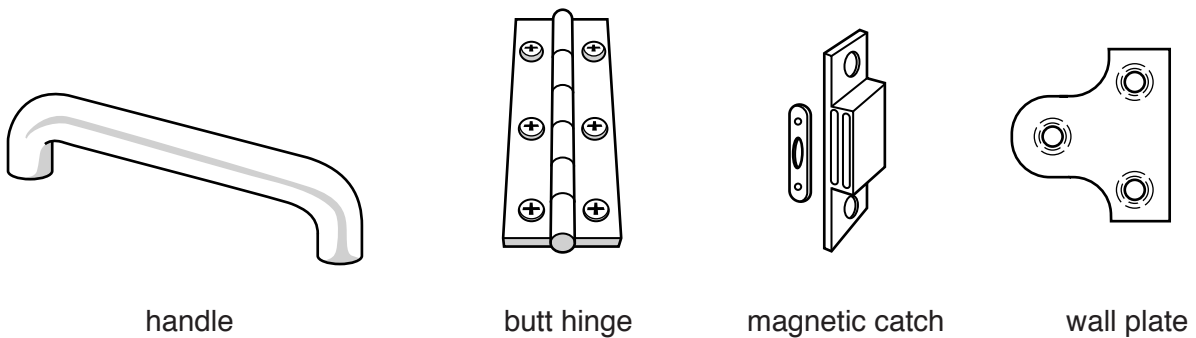

Fig. 8
- (b)** Fig. 8 shows four pre-manufactured components that could be used in the construction of the cabinet.